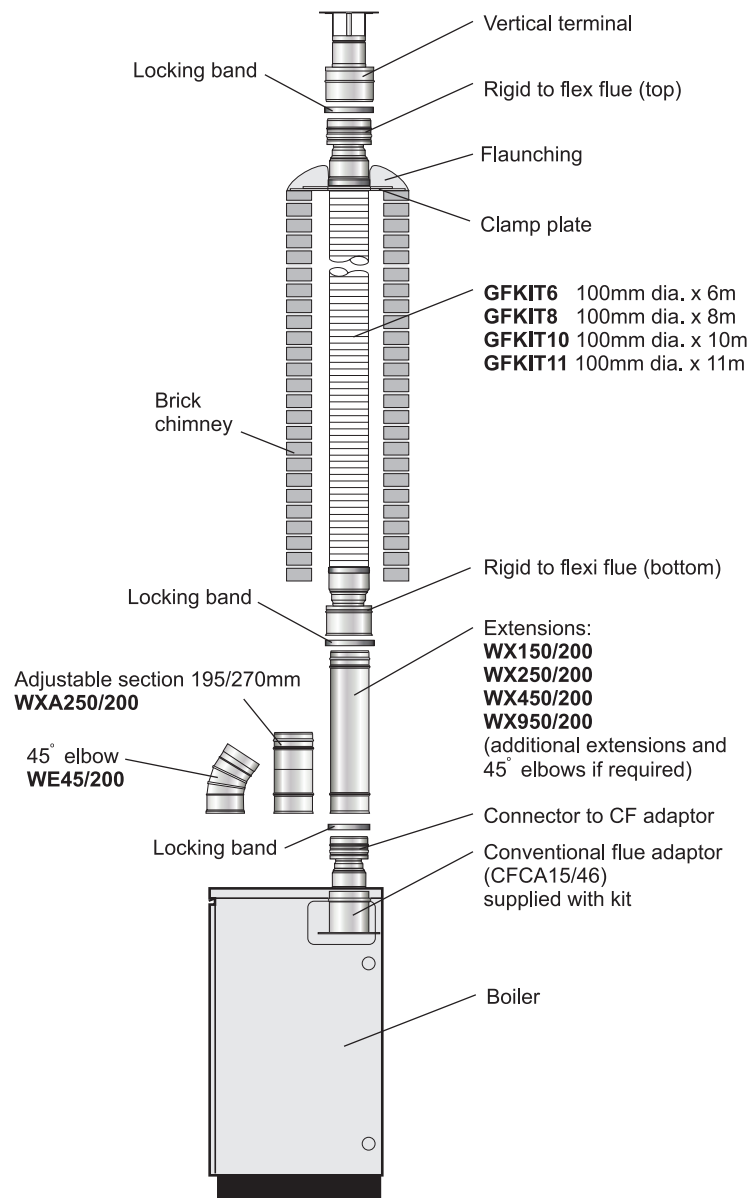

Fig. 13 - Vortex Combi typical conventional flue with brick chimney
See Figs. 13 and 14
Care must be taken to ensure the flue system is suitable for the very low flue gas temperatures and condensate in the flue gases - suitable conventional flue systems (Orange system) are available from Grant UK - see Fig. 13 and page 24.
- 3 The flue terminal must be at least 600 mm from any opening into the building, and 600 mm above any vertical structure or wall less than a horizontal distance of 750 mm from the terminal. See Fig. 13.
Grant EZ-Fit Flexi Pack conventional flue system (Orange System) - See Fig. 13